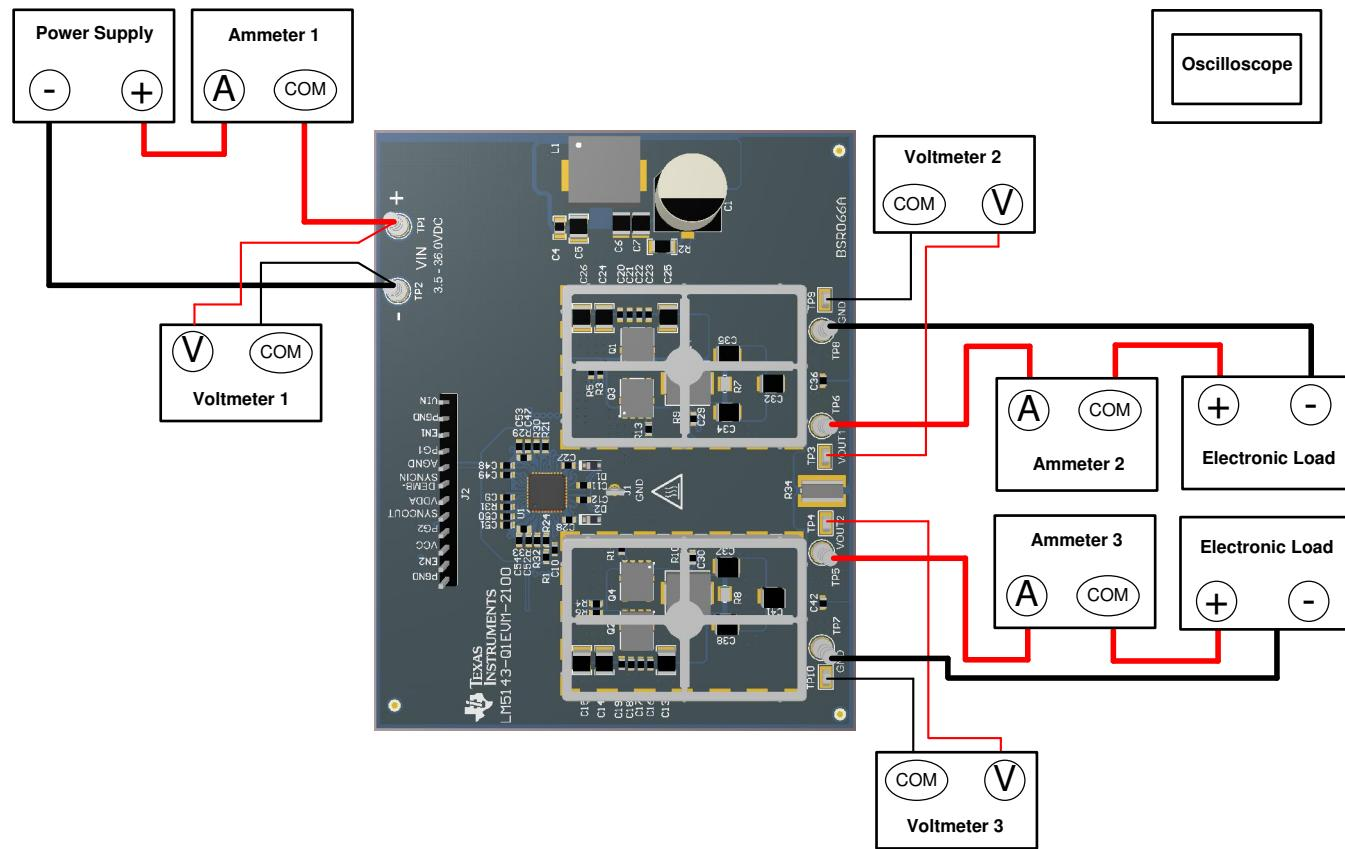

Figure 4. EVM Test Setup
Referencing the EVM connections described in Table 3, the recommended test setup to evaluate the LM5143-Q1EVM-2100 is shown in Figure 4. Working at an ESD-protected workstation, make sure that any wrist straps, boot straps, or mats are connected and referencing the user to earth ground before handling the EVM.
- Prior to connecting the DC input source, set the current limit of the input supply to 0.1 A maximum. Ensure the input source is initially set to 0 V and connected to the VIN+ and VIN- connection points as shown in Figure 4. An additional input bulk capacitor is recommended to provide damping if long input lines are used.